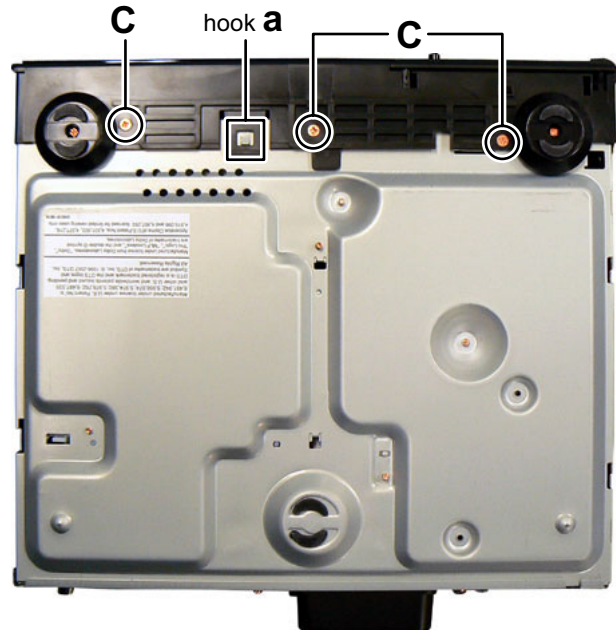

Fig.4
3.1.2 Removing the Front panel (See Fig.4 to 7)
- (1) Remove the three screws **C** attaching the Front panel. (See Fig.4)
- (4) Disengage one hook **a** engaged bottom side of the Front panel. (See Fig.4)